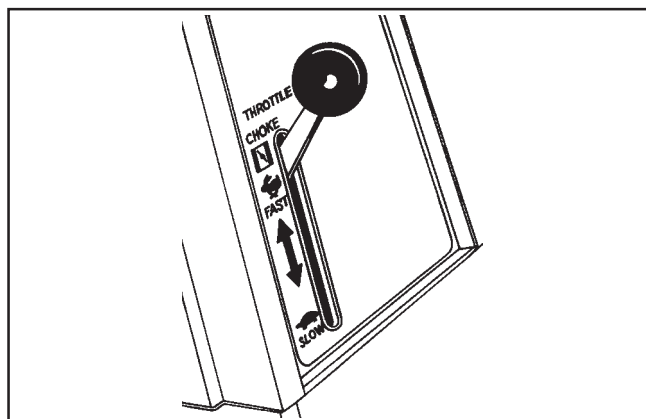

Figure 5. Throttle Position for Starting Engine.
1. **For a Cold Engine or a Warm Engine** – Place the throttle/choke control into the “fast/choke on” position. This will also place the choke into the “on” position. See Figure 5.